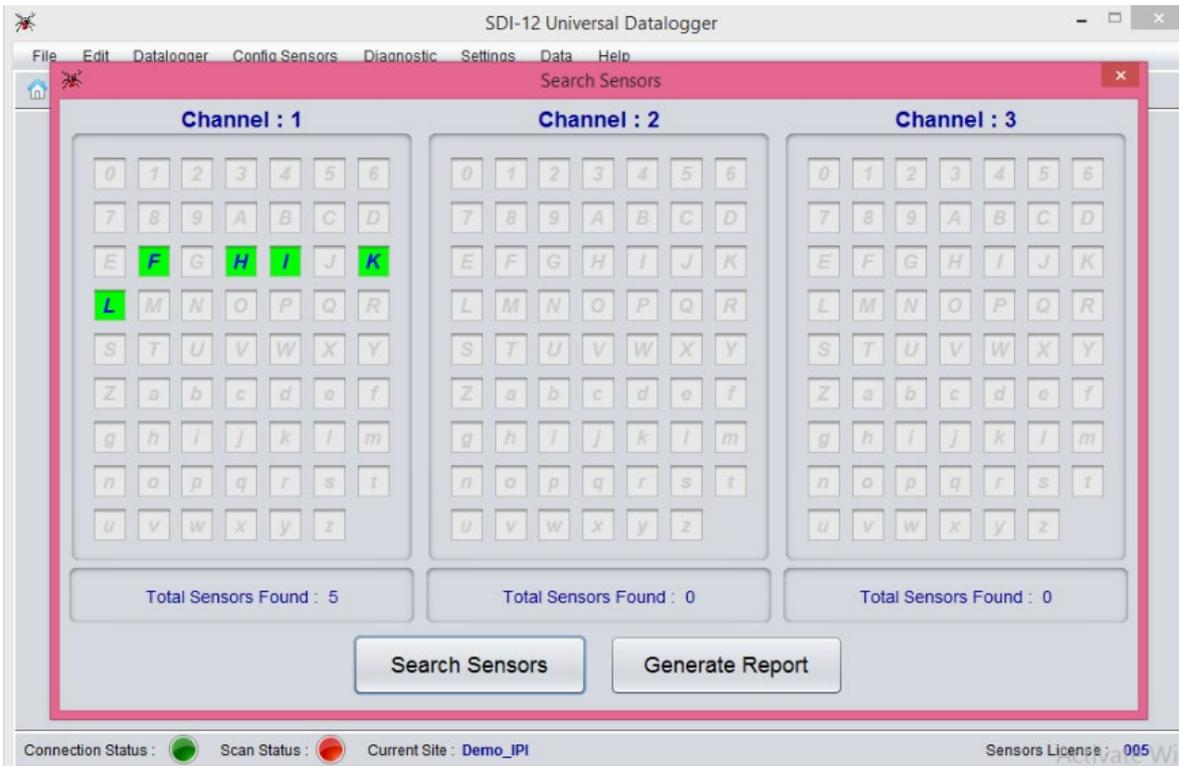

Figure 7-15 Search sensor window showing the detected sensors
- On completion of search progress, addresses of sensor will be displayed (figure 7-15). Note down/generate report for later usage. Close "Search Sensors" window after use.